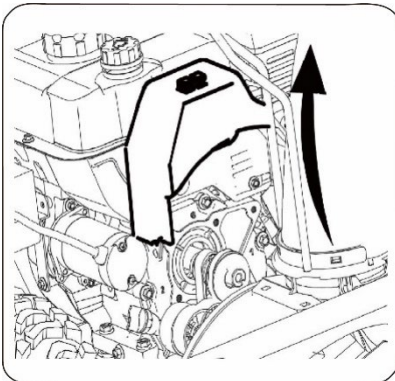

Fig.21
1. Remove the belt guard at the front of the motor by removing the two self-tapping screws. See figure 21. NOTE: Drain the petrol from the snow blower.